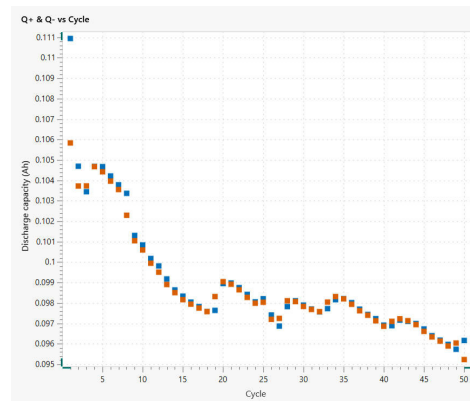

**Figure 4.** Example of an  $E$  vs  $Q^+/Q^-$  plot from the charging and discharging of a Li-ion coin cell battery.
Voltage vs (Dis)charge Capacity,  $E$  vs  $Q^+/Q^-$  is shown in **Figure 4**. These are also known as charge and discharge curves, and they also plot the voltage but now as a function of capacity instead of time. This alternative way of representing the same information is quite popular as it is easier to see more details about the electrochemical reaction.
The plateaus in this plot indicate phase changes within the active material. The slope of the curves can provide information about the kinetics of the reaction as well information about the resistive components in the battery. Other important uses include monitoring the health of the battery. As the cycle test continues, the capacity can begin to fade leading to curve shortening, which can give insights into potential failure mechanisms. The discharge capacity curve is shrinking, indicating that the capacity is fading in this case (**Figure 4**).
**Voltage vs  $\Sigma$  Capacity,  $E$  vs  $|Q|$ .** In **Figure 5**, the voltage vs  $\Sigma$  Capacity plot is shown, which is a different way of representing the information in **Figure 4**. Changes in this plot can also give indications regarding possible failure mechanisms. Ideally, if no degradation occurs, each cycle should start at zero while a displacement to the right (positive) indicates a loss of capacity.